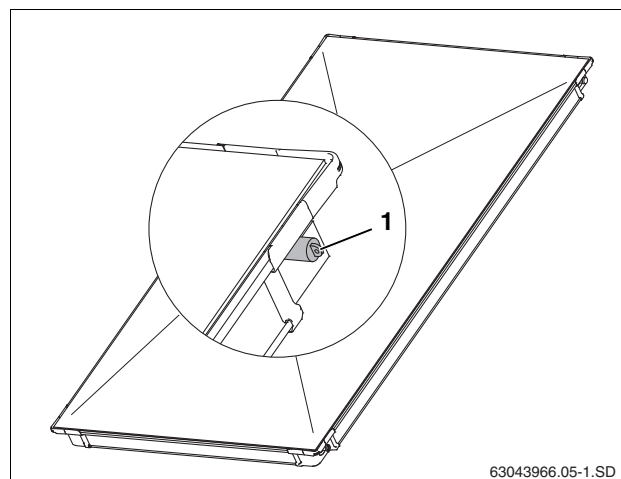

Fig. 5 Rubber caps on collector connections
- Do not remove the rubber caps (Fig. 5, [1]) until immediately prior to installation.